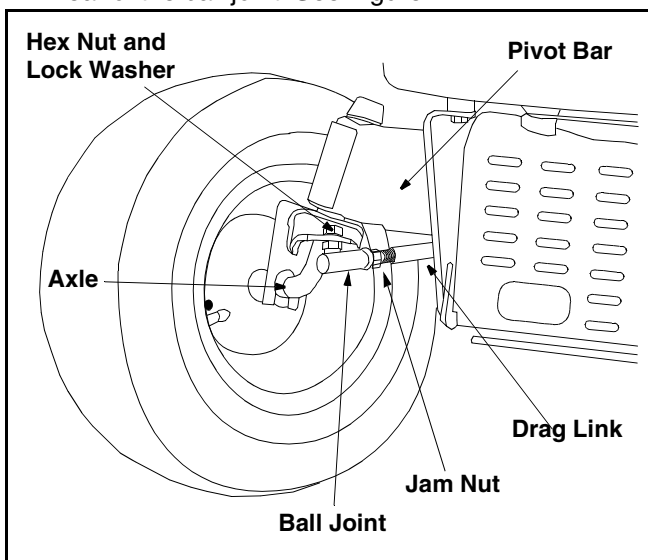

Figure 14
- Loosen the jam nut found on the drag link at the rear of the ball joint. See Figure 14.
- Remove the hex nut and lock washer on the top of ball joint. See Figure 14.